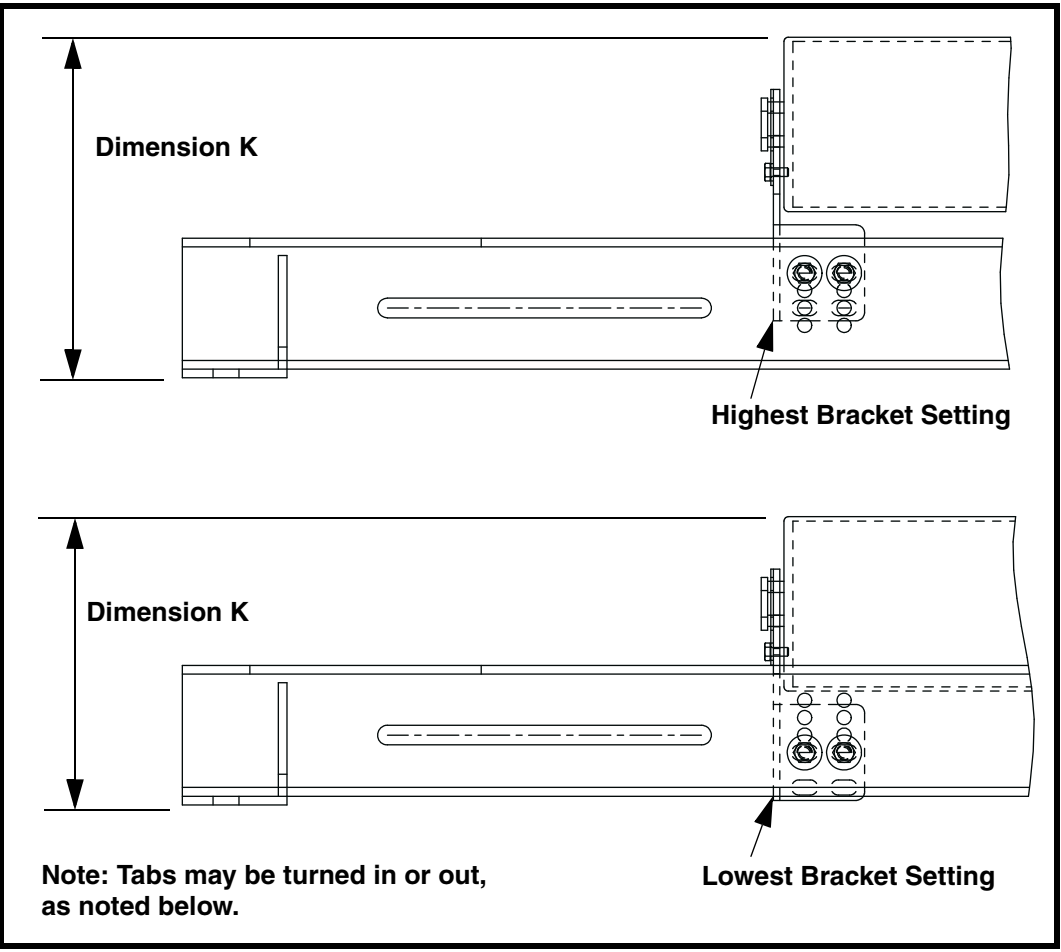

Figure 6. Bracket Settings and Dimensions
If center support roll is used, refer to Table 2 and Figure 6 for mounting details. Mount brackets should be installed prior to step 3 but can be installed during a later step.
3. Place one sub-assembly across the conveyor stringers, placing feet of the support on each conveyor stringer using the reference marks from step 2. Center support rolls are standard with this unit, refer to Table 2 and Figure 6 for mounting details. Brackets should be installed prior to step 3, but can be added during a later step.
Table III. Center Roll Bracket Settings (refer to Figure 6)